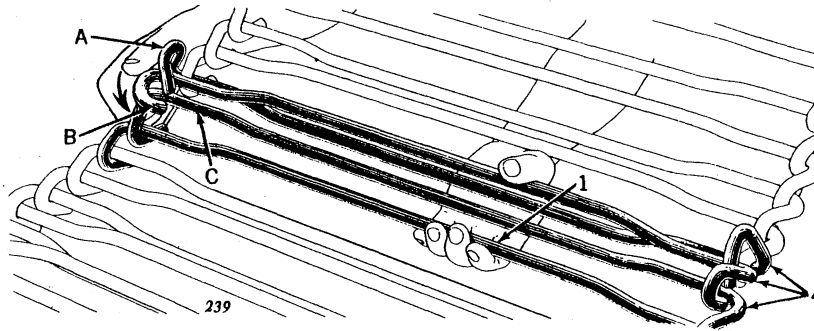

Figure 7
1. (Figure 7) Grasp the two last links of one end of the elevator with the thumb of the LEFT hand and the two last links of the other end of the elevator with the fingers of the LEFT hand and draw the four links together.
2. (Figure 7) Place the links "A," "B," and "C" in the position shown.
3. (Figure 7) With the thumb of the RIGHT hand turn link "B" over link "C" in the direction of the arrow which will automatically connect all three links.
4. (Figure 7) When links "A," "B," and "C" are connected, maintain the relative position of the links by holding same with the RIGHT hand instead of the LEFT. Then proceed with the LEFT hand to connect the other ends of the links at "4" following the same procedure as in steps "2" and "3" above.